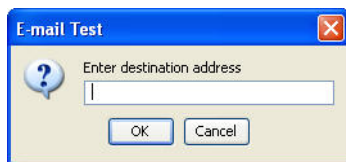

FIG. 139
2. The E-mail Test screen shown in FIG. 139 displays. Type an e-mail address to send the test message to and click the OK button to send the test e-mail.